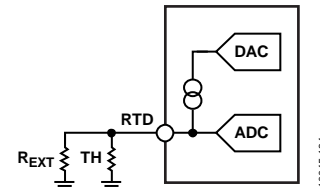

Figure 36. Temperature Measurement Using Thermistor
By connecting an external resistor (R_{EXT}) in parallel with the NTC thermistor (TH), a constant current can be used to achieve linearization (see Figure 36).